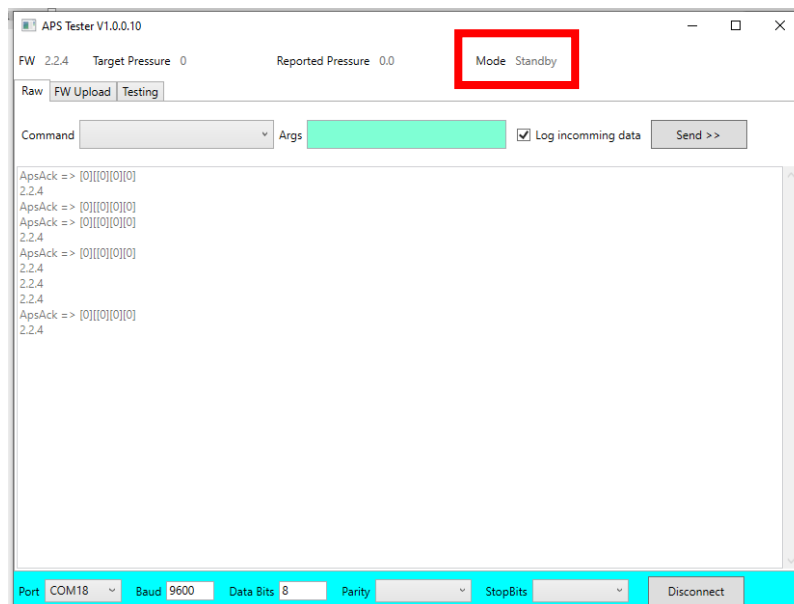

Figure 3: APS in 'Standby' mode.
4. Ensure the instrument has finished calibrating before you upload the new firmware. This is indicated by the APS being in 'Standby' Mode indicated in figure 3.